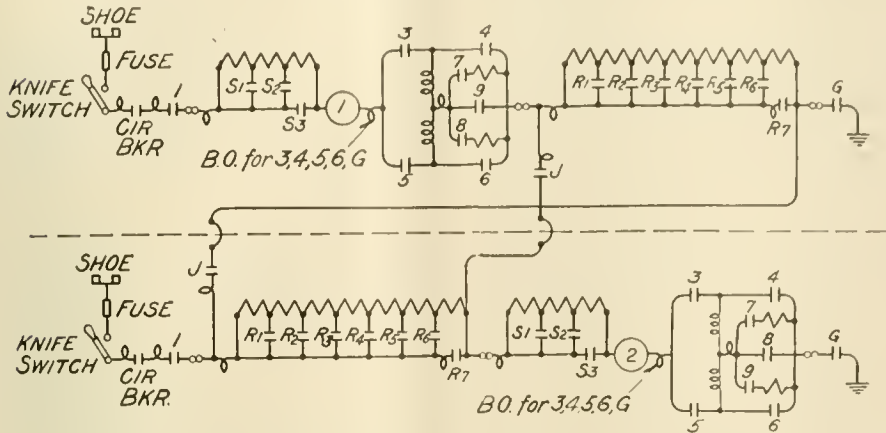

FIG. 23. MAIN MOTOR CIRCUITS FOR D. C. LOCOMOTIVE.
A.—Arrangement of the D.C. circuit is shown by Fig. 23, which shows the schematic diagram of the main motor circuit for a large D.C. locomotive consisting of two halves. The sequence of switches is shown by Fig. 24.